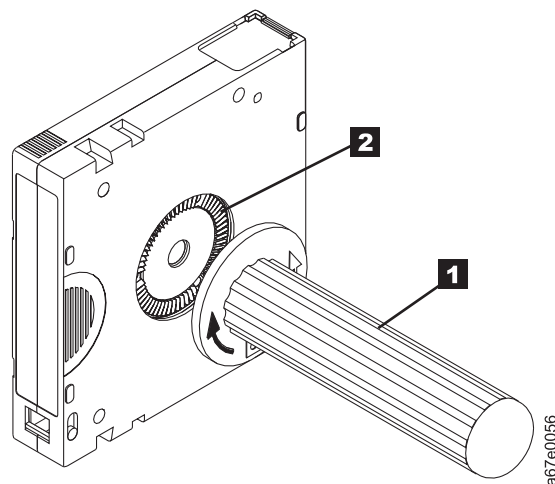

Figure 46. Rewinding the tape into the cartridge
5. To rewind the tape, insert the cartridge manual rewind tool (**1** in Figure 46) into the cartridge's hub (**2**) and turn it clockwise until the tape becomes taut.